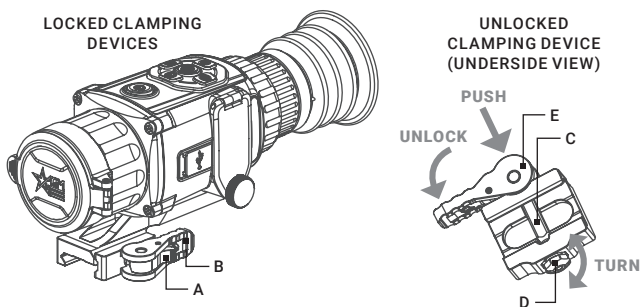

FIGURE 2-6. MOUNT
To install the Rattler on a Picatinny/Weaver rail, perform the following (Figure 2-6):
2. With the clamping device unlocked (as shown in Figure 2-6), push the cam (E) towards the arrow, which will cause the nut (D) to slide out of its hole.
3. To tighten/ loosen the clamping device, push down on the cam (E) and turn the nut (D) CW/ CCW respectively, in one-two increments (see note below). Much like when the cam (E) is released, backward-moving spring will cause the nut (D) to slide back into its hole.